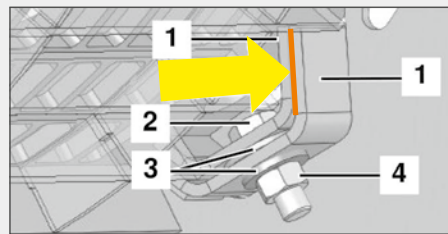

Fig. 10: Lower attachment of the replaceable rear basket grid on the replaceable rear basket grid holder
12. Fix the replaceable rear basket grid with hex bolts (fig. 10/2), washers (fig. 10/3) and a hex nut (fig. 10/4) tightly to the lower part of the replaceable rear basket grid holder.
- The surfaces of the outer holders (fig. 10/1) must fit tightly against each other (fig. 10/arrow).